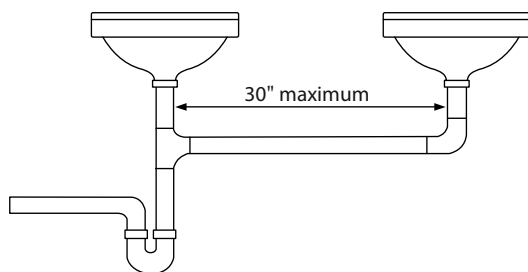

Figure 4-7
- Two or three lavatories adjacent to each other may connect to a single trap if (a) the waste outlets don't exceed 30 inches, center to center, and (b) the trap is centrally located between the three lavatories. See Figure 4-7.